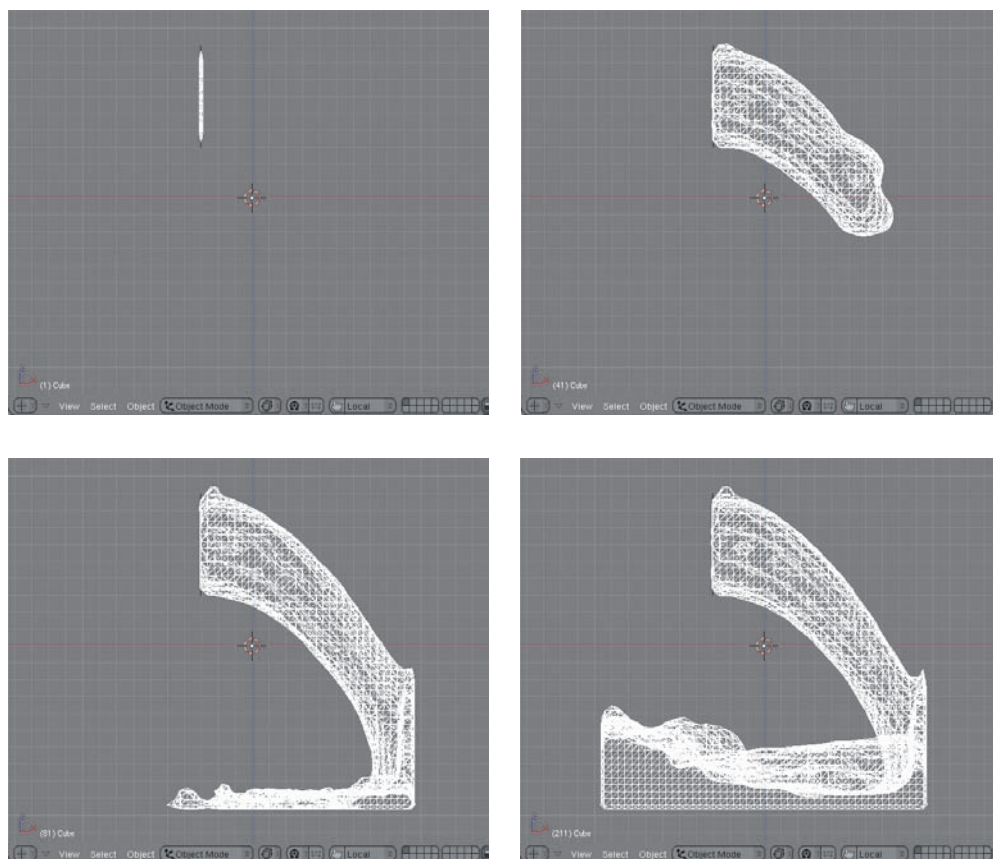

Figure 5.16 Fluid simulation with inflow
6. After you enter these options, select the Domain object and bake the fluid simulation. As you can see in Figure 5.16, the fluid enters the simulation through the Inflow object and fills up the domain. If you set the simulation to continue for enough frames, the domain will eventually fill up completely.
To see a good example of how particles can be used to get splashier fluids, set up a fluid simulation with an inflow along the lines of the example shown earlier in Figure 5.16.